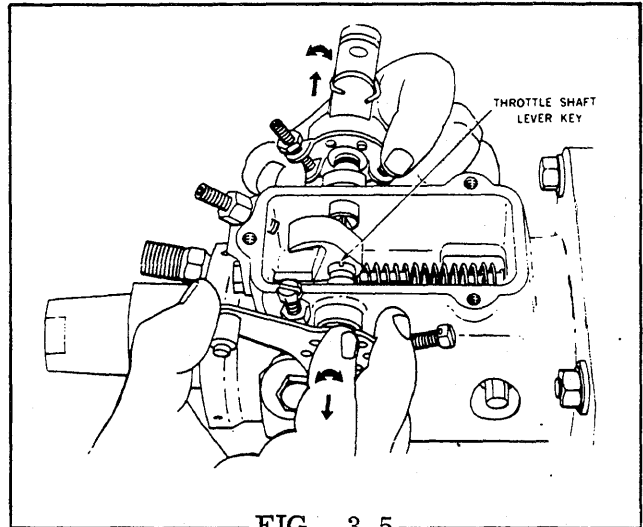

FIG. 3.5
STEP 5 Withdraw the throttle shaft assembly, and throttle shaft lever from the shut-off lever assembly (Fig. 3.5). To aid in correct reassembly, note the position of the throttle shaft lever key in relationship to the groove of the throttle shaft assembly.